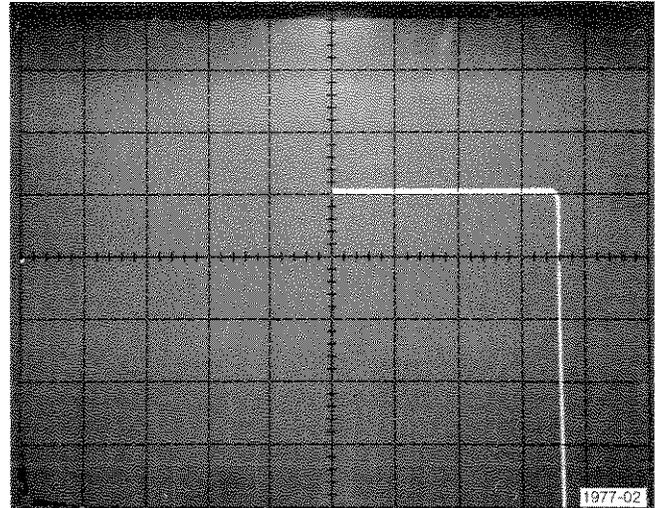

Fig. A-2. Display of input offset voltage and output voltage swing.
a. Turn the SWEEP AMPLITUDE control slowly clockwise until the display indicates the +Power Supply level has been reached (right edge of the display moves straight down screen, see Fig. A-2).